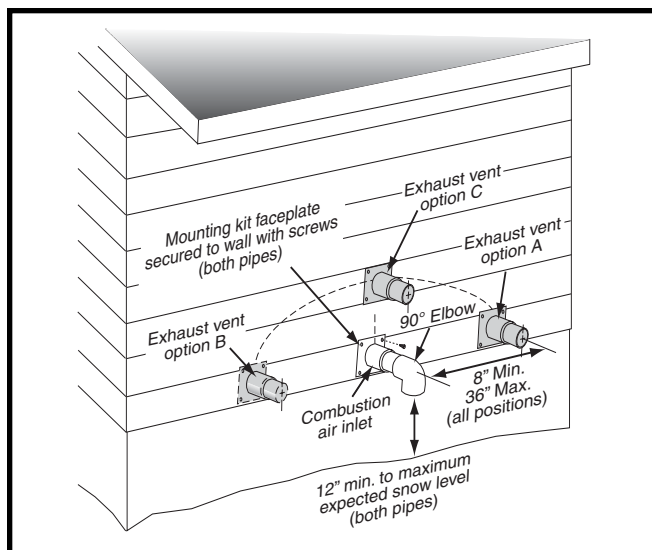
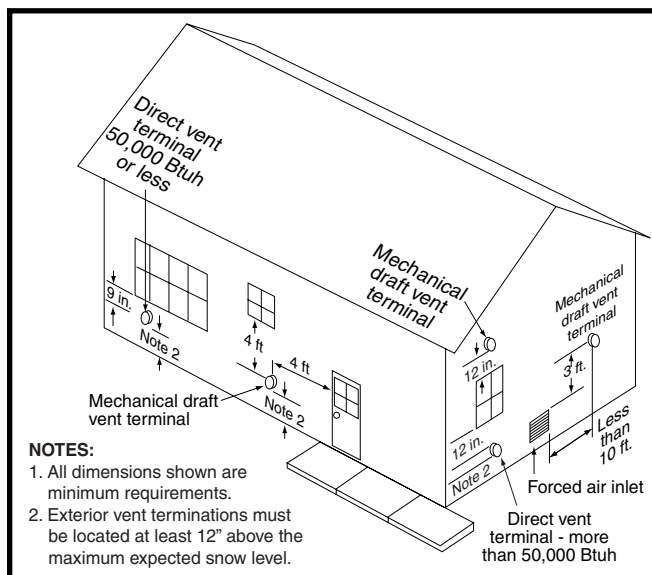
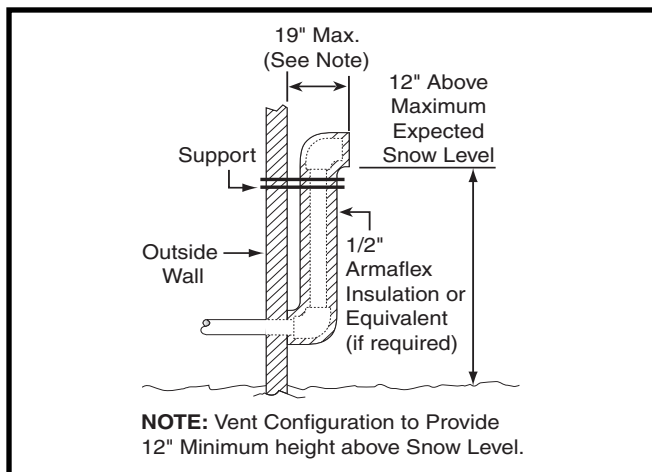

Figure 7. Inlet & Exhaust Pipe Clearances
Figure 8. Vent Locations
Figure 9. Alternate Horizontal Vent Installation
- Vent and combustion air intake terminations shall be installed as shown in Figure 7 & Figure 8 and in accordance with these instructions:
- All minimum clearances must be maintained to protect building materials from degradation by flue gases. See (Figure 8).
- When the vent pipe must exit an exterior wall close to the grade or expected snow level where it is not possible to obtain clearances shown in Figure 7, a riser may be provided as shown in Figure 9. Insulation is required to prevent freezing of this section of pipe. See Table 2 \(page 11\) for vent freezing protection.